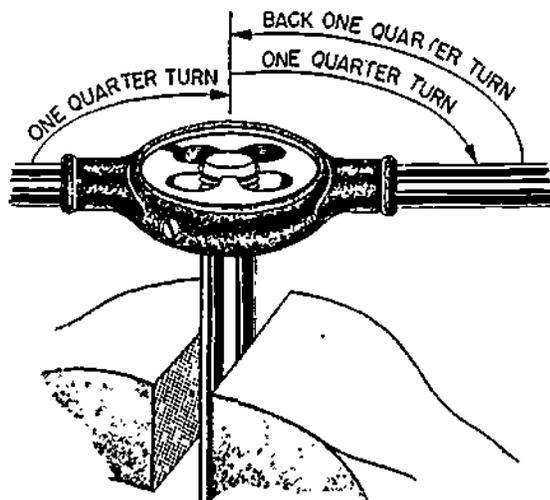

Figure 17-33. Procedure for Threading Rod
b) To thread the rod, place it in a vise and start the die squarely with the work. Hold one handle with each hand and apply pressure while turning it clockwise until you feel the dies cutting into the rod. Use a generous amount of good-grade thread-cutting oil while cutting the thread. When the die has started to cut, rotate the die stock one-half turn and back it off one-quarter turn, as illustrated in Figure 17-33. This breaks the metal chips. When the thread is cut to the desired length, remove the die and try the thread in the intended location.